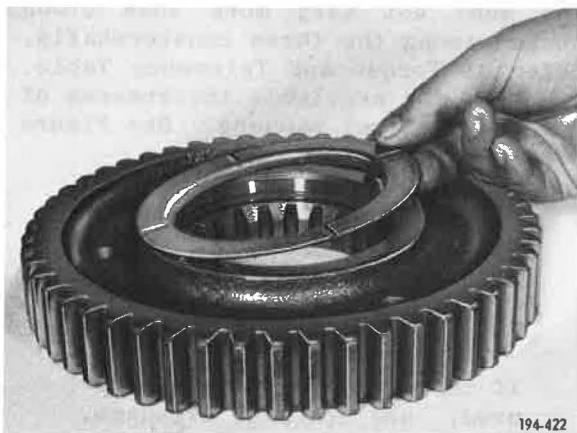

Figure 356. Installing Thrust Washer
15. Apply a light coat of grease to the front face of the second speed gear, and then place the second speed gear thrust washer onto the front face of the gear. The grease will hold the thrust washer in position during installation. See Figure 356.